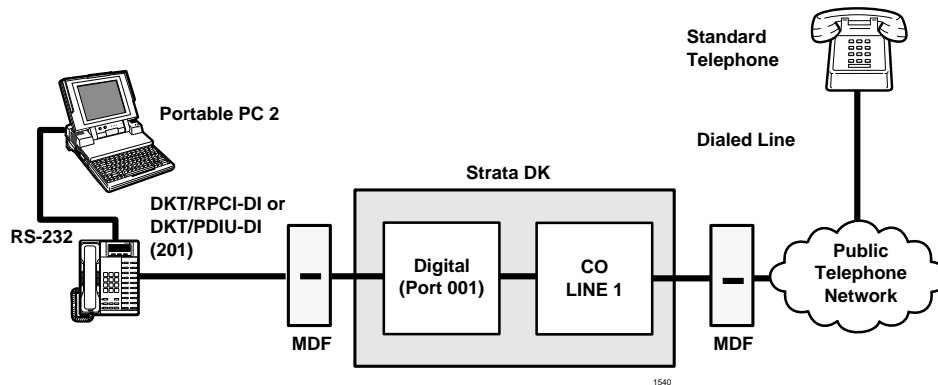

Figure 10-39 DK PC Auto Dial Voice Call Test
**Note** See Figure 10-39 for additional information.
- ◆ Program 39: Port 001. **Data Call** (556) and **Data Release** (554) buttons are optional. If the PDIU-DI is only used for the PC auto dial application, the **Data Call** and **Data Release** buttons are unnecessary.